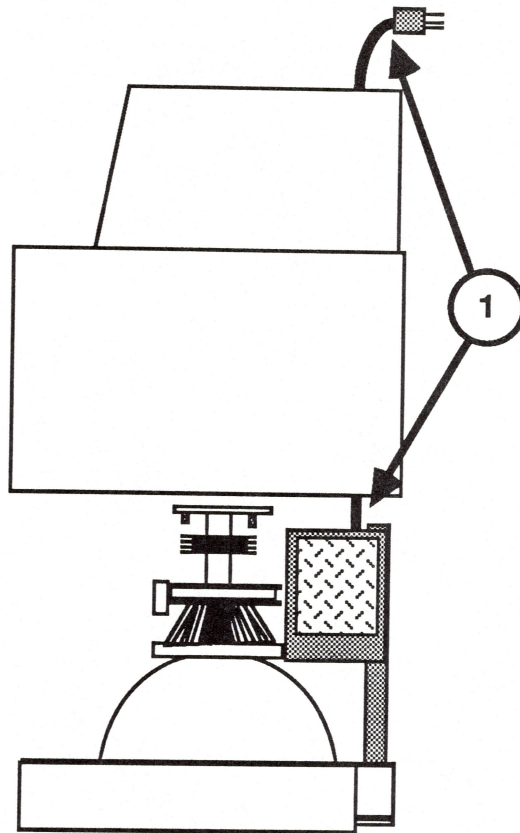

FIGURE 33
1. Feed the AC power cord through the opening in the cover while you lower the cover onto the monitor (Figure 33, #1).